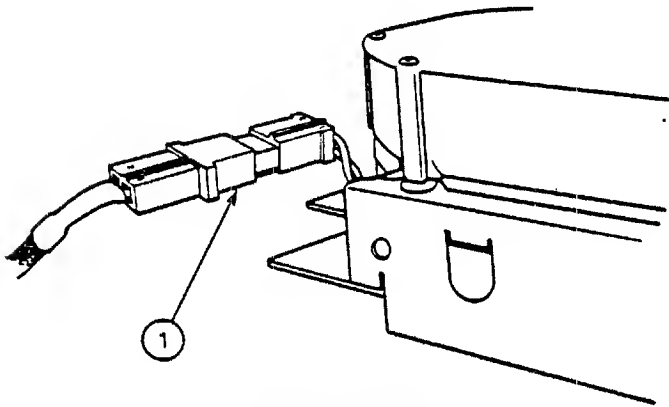

FIGURE 12
2. Disconnect the small white power supply plug (between the power supply and the HDA) from its mate (Figure 12, #1).
3. Connect the two-pronged power supply cable to its mate from the HDA (Figure 12, #1); reconnect them behind the orange Mylar cable (i.e., closer to the HDA).